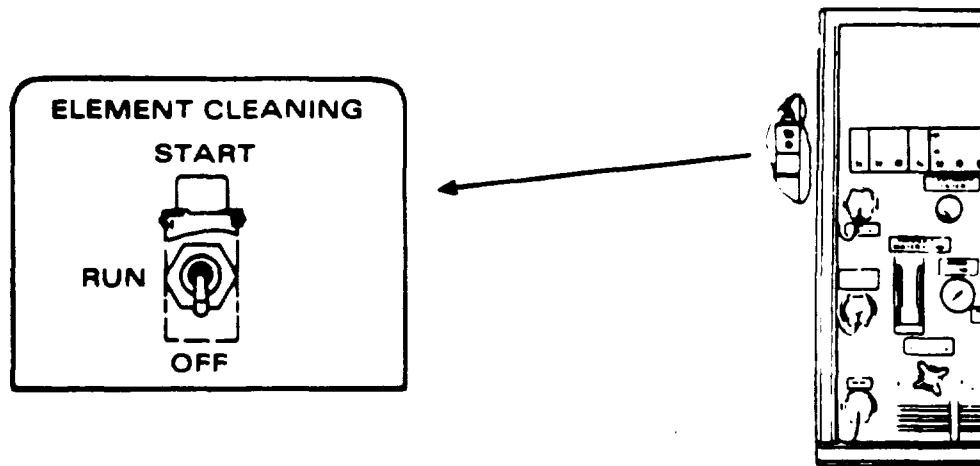

Figure 2-42. Element Cleaning Switch
- c. Backwash Valve. Set the backwash valve to normal. Position as shown (Fig. 2-42).